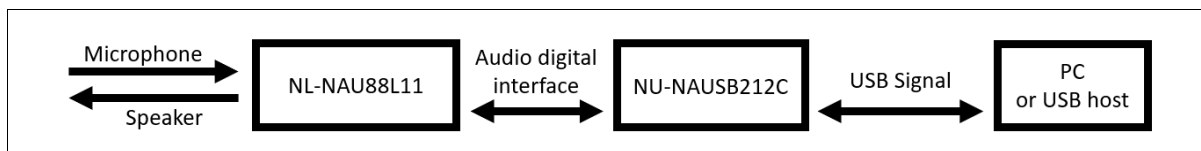

Figure 2-5 Signal Path of NU-NAUSB212C and NL-NAU88L11
3. CN2 of NU-NAUSB212C uses USB Cable to connect to a PC under Windows system. (If possible, please do not connect to the PC through USB HUB). Figure 2-5 shows the audio signal path after the two boards are connected to each other.